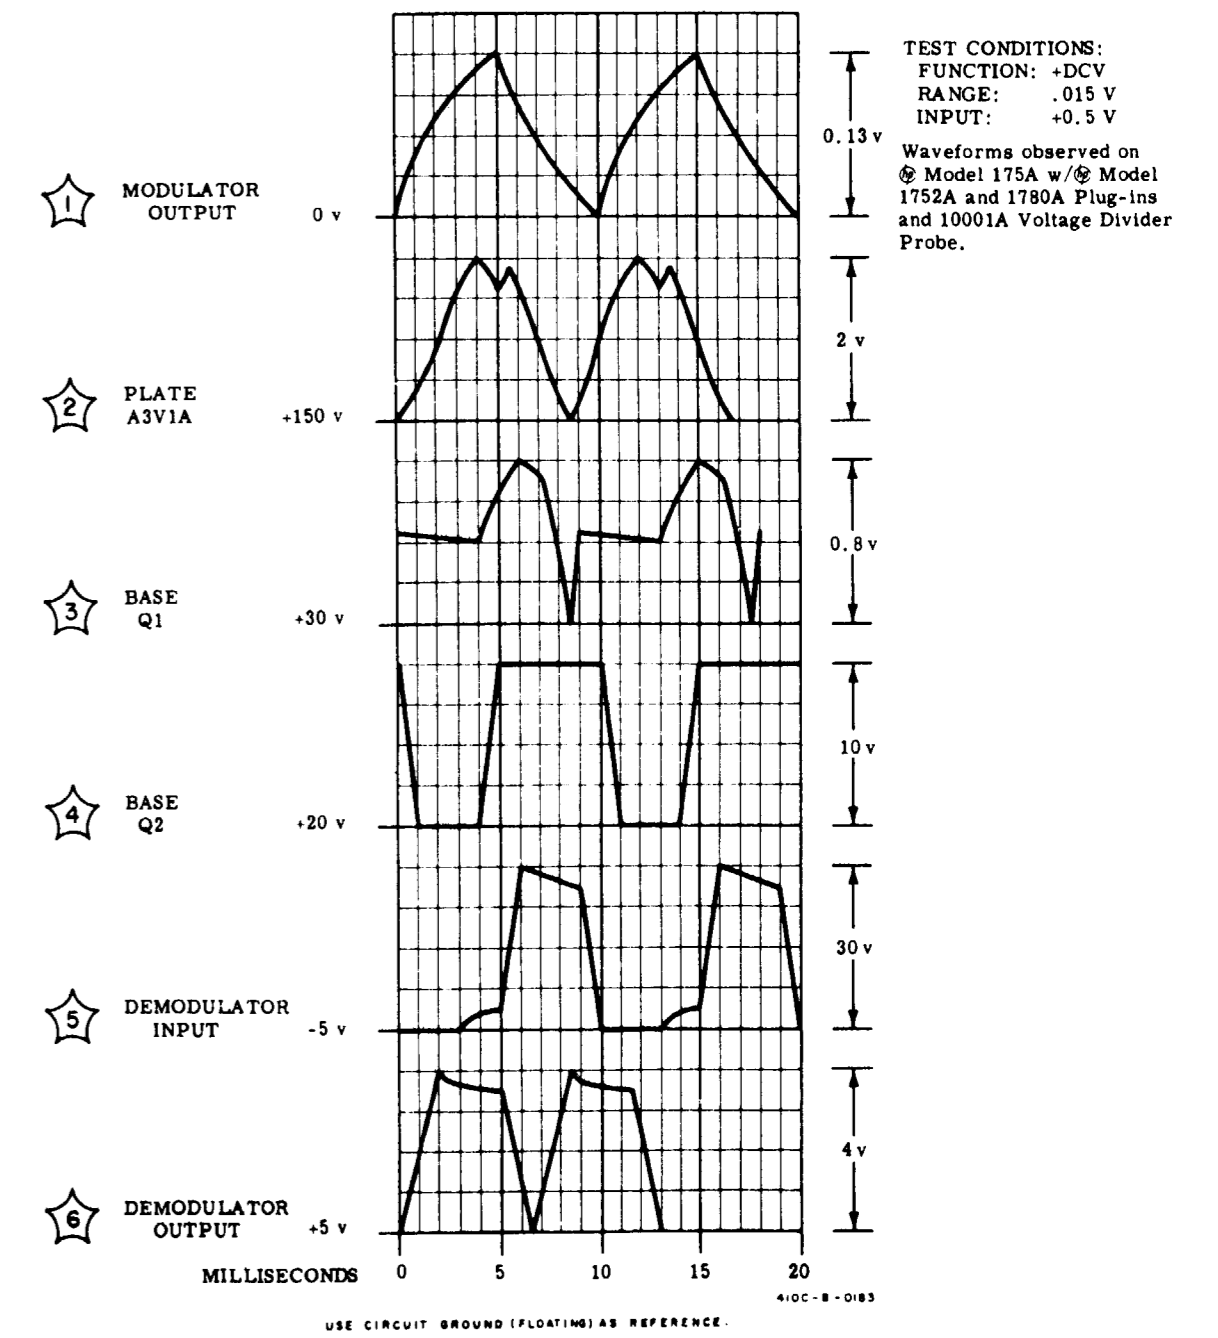

Figure 5-9. Typical Amplifier Waveforms
5-44. Refer to Figure 5-9 for typical waveforms encountered in the Model 410C. Waveforms represent signals which occur when instrument is operating during overdriven conditions (.5 vdc input to .015 v RANGE).
- ⑤ Measure the dc voltage at Pin 1, A3. This voltage is typically 13-15 mv. If this voltage is correct, proceed to ⑥; if not, proceed to ⑦.
- ⑥ Investigate switch circuit. Refer to asterisks in Table 5-9 for hints on how to troubleshoot switch circuit.
- ⑦ Observe input voltage to demodulator using an oscilloscope. Refer to Figure 5-9 for normal waveform under overdriven conditions specified. If waveform is normal, proceed to ⑧; if not, proceed to ⑨.